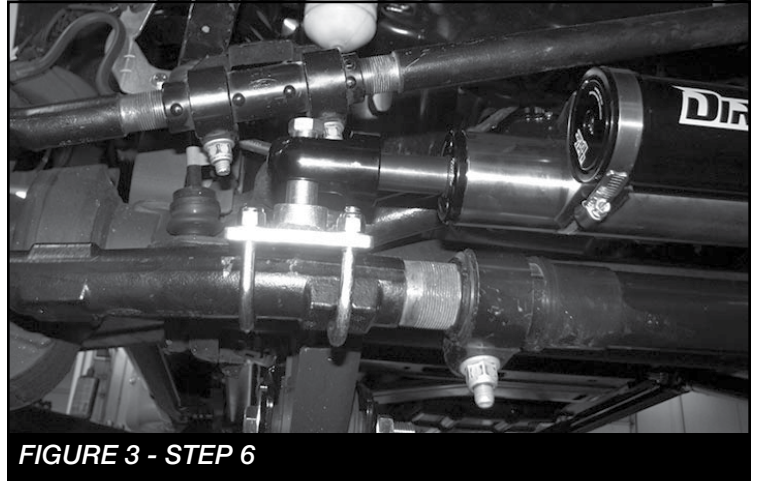
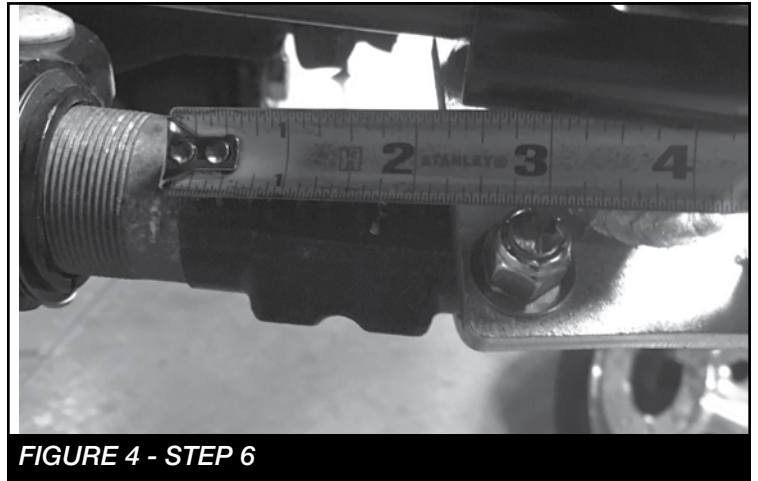

FIGURE 3 - STEP 6
FIGURE 4 - STEP 6
5. **F-450/550 ONLY** Working on the Passenger side of the truck, locate FT30148 Tie Rod End Bracket and position it so the inner ubolt seats in the groove of the factory outer tie rod using the supplied 3/8" hardware. **SEE FIGURE 3.** (Driver side) Install the FT30148 on the driver outer tie rod so the bracket measures 2-1/4" from the end of the factory tie rod. **SEE FIGURE 4** Torque the 3/8" ubolt hardware to 37 ft-lbs.